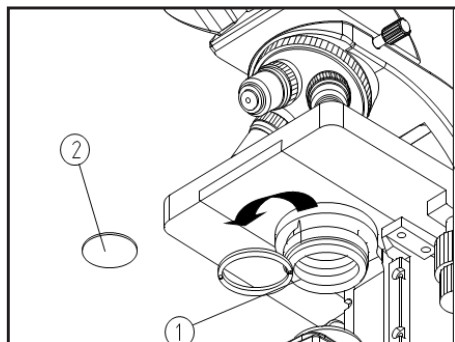

fig. 7
**Mounting the filters (fig. 7)**